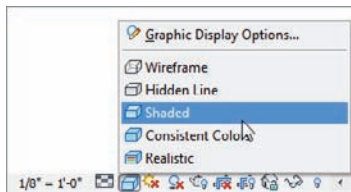

FIGURE 1.42 The Visual Style button enables you to view your model in color. This is typical for a 3D view.
2. On the View Control bar, click the Visual Style button and choose Shaded, as illustrated in Figure 1.42.